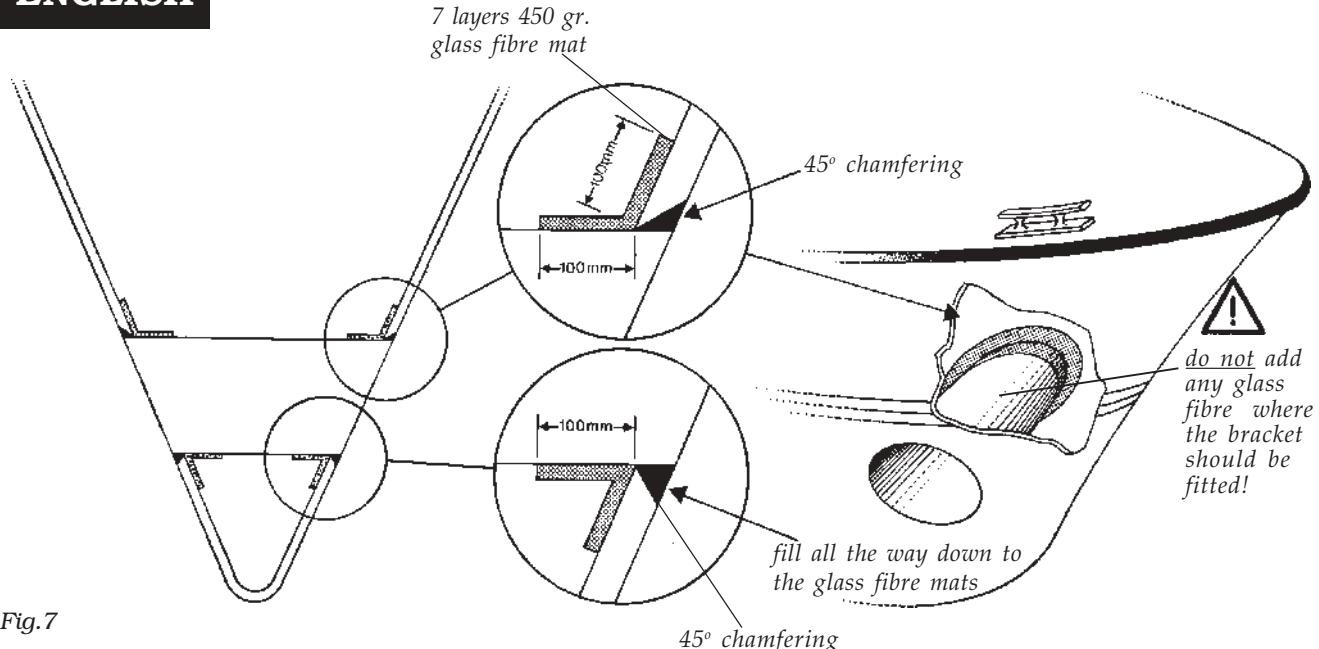

Fig.7
5. The outer edges of the tunnel holes should be chamfered down 45° to the innermost edge of the hole. See fig. 7.
9. On the inside of the hull, in an area of minimum 100 mm around the cut holes, all Top-coat should be ground off to get a clean surface on which the 7 layers of 450 gr. glass fibre mats should be applied. See fig. 7.
13. Coat the glass fibre mats with plastic and fill the gap between tunnel and hull with glass fibre putty all the way down to the mats and alongside the hull. See fig. 7. Grind smooth and rub off the inner edge of the tunnel hole.